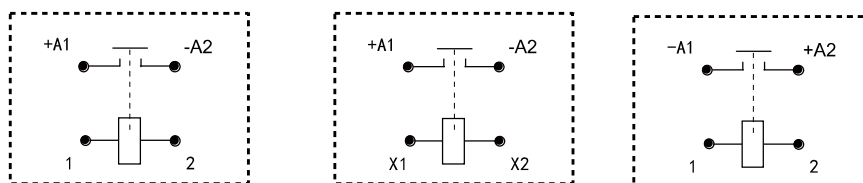

Figure 2
3.1 For polar products, make sure to use them correctly according to the instructions and marks on the product surface (as shown in Figure 2). When the load connection polarity is reversed, the electrical characteristics promised in this manual cannot be guaranteed. Please refer to Table 1 for polarity description of each series.